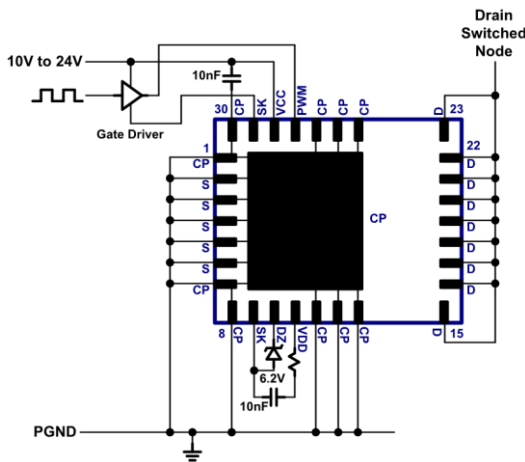

Fig. 22. SK pin connections
For high current and hard-switching CCM applications, high-frequency switching noise due to PCB layout parasitic inductance should be minimized as much as possible. To further reduce high-frequency noise, this GaN Power IC includes two Source Kelvin (SK) pins (pin 9, pin 29). The SK pins are on-chip kelvin contacts to the Source and are separate from the high current Source connections (pins 2-7). The GND connections for components  $C_{VDD}$  and  $D_Z$  should be connected to SK pin 9, and the GND connection for  $C_{VCC}$  should be connected to CP pin 30 (Fig. 22). SK pin 29 should be left unconnected (N/C). When using an external gate drive buffer for PWM, the GND of the external gate drive buffer should be connected to the SK pin 29. This will minimize any possible high frequency voltage spikes from occurring at the PWM input during switching.